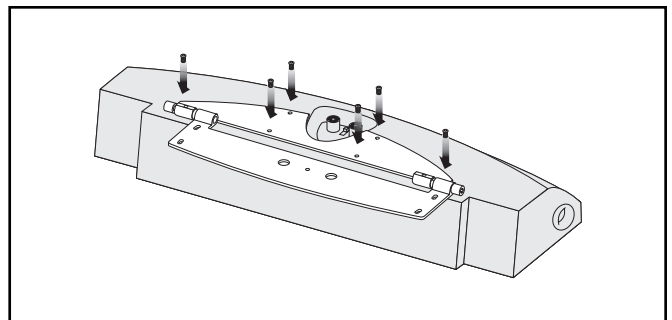

Figure 15. Install 6 screws.
- 5 Using the 2.5MM Allen tool, install the 6 screws that attach the cabinet bracket and firmly tighten them (see figure 15).